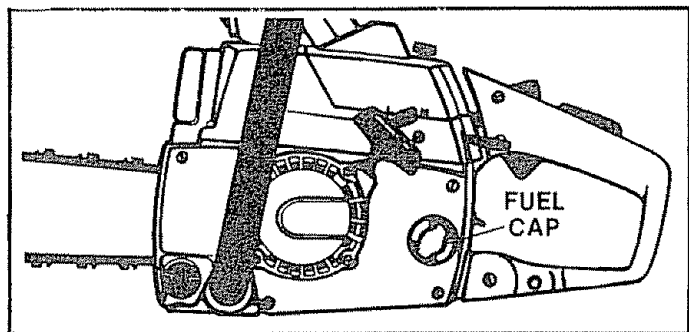

Figure 11
- e. **Avoid over filling the fuel tank.** Allow 3/4 inch for expansion. Tighten Fuel Cap securely. Figure 11.